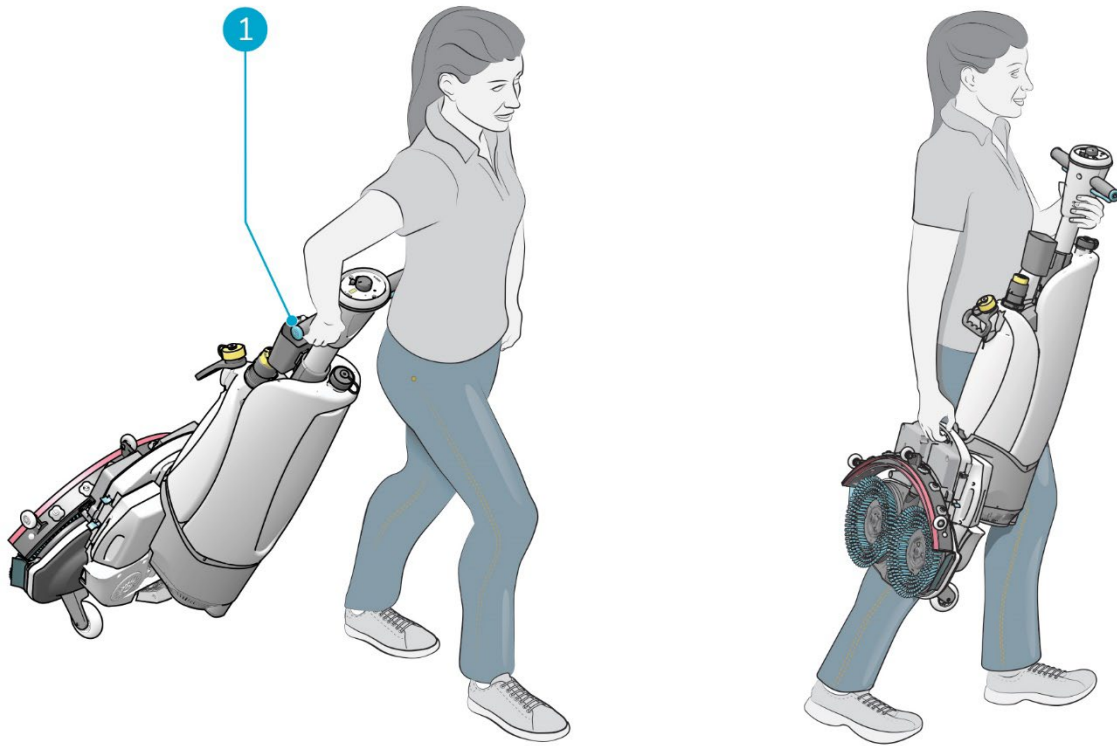

Figure 18
2. Hold the handle with one hand (Figure 18, pos 1).